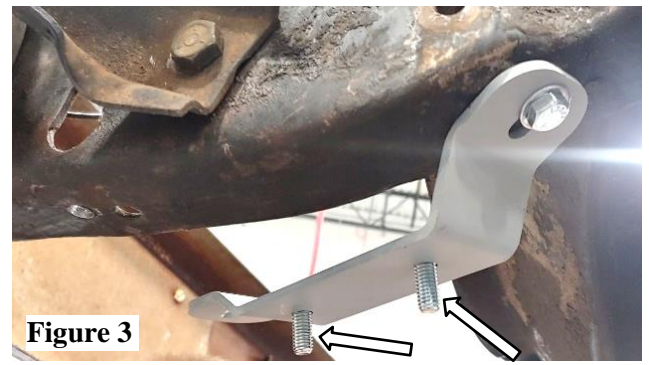

Figure 3
- Before fully installing the bracket to the frame, install two 3/8" x 1" bolts into the center holes of the bracket facing down. **(Figure 3)**
9. Before installing the bracket to the frame, install two 3/8" x 1" bolts into the center holes of the bracket facing down. **(Figure 3)**